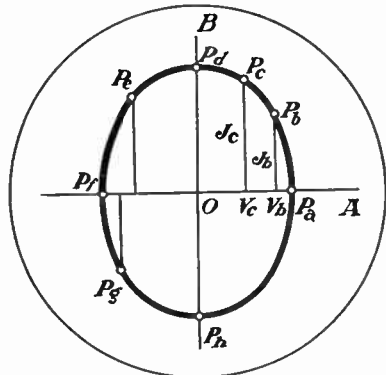

Fig. 6. The line traced by the cathode ray on the fluorescent screen when the oscillograph is excited by a sinusoidal alternating current.
Fig. 4 shows the formation of water when hydrogen is burned. In Fig. 5 a platinum wire is heated to redness by an electric current and a bell jar full of hydrogen is placed over it. It will cool the hot wire. In Fig. 6 is shown a flame of oxygen burning in a bell jar of hydrogen, while the hydrogen burns around the mouth of the bell jar.
On comparing Figs. 5 and 6 we find the following: The circumference of Fig. 6 represents the phosphorescent screen, (O) its
center is at the same time the luminous point caused by the electrons when condenser and coils are inactive, (A) is the horizontal deviation, caused by the condenser, (B) is the vertical deviation of the coils. After closing the circuit we begin our observation at point (a) (Fig. 5), intensity $I=0$, tension $V=(V_a)$. The projection of the two points coinciding on the horizontal axis, we may assume the point (Pa) of Fig. 6 to indicate their position with (O-Pa) equal to (V_a) on Fig. 5 as the maximum deviation caused by condenser.